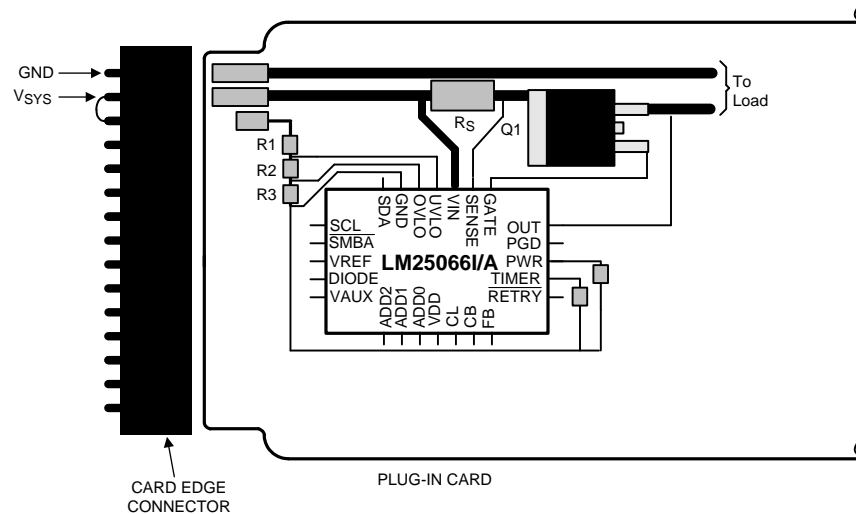

Figure 48. Recommended Board Connector Design
- The board's edge connector can be designed such that the LM25066I/A detects via the UVLO/EN pin that the board is being removed and responds by turning off the load before the supply voltage is disconnected. For example, in Figure 48, the voltage at the UVLO/EN pin goes to ground before V_{SYS} is removed from the LM25066I/A because of the shorter edge connector pin. When the board is inserted into the edge connector, the system voltage is applied to the LM25066I/A's VIN pin before the UVLO voltage is taken high, thereby allowing the LM25066I/A to turn on the output in a controlled fashion.